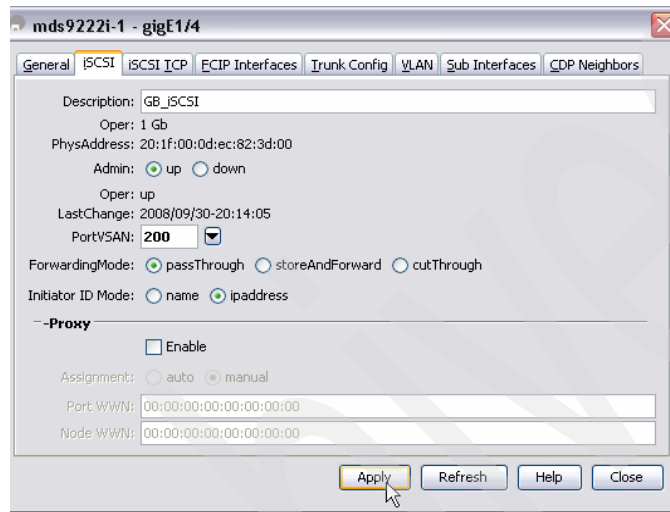

Figure 7-36 Device Manager Interface panel
7. Select the **iSCSI** tab. On this tab we select the **Admin up** check box, **VSAN 200**, **passThrough**, and **ipaddress** options, as shown in Figure 7-36.